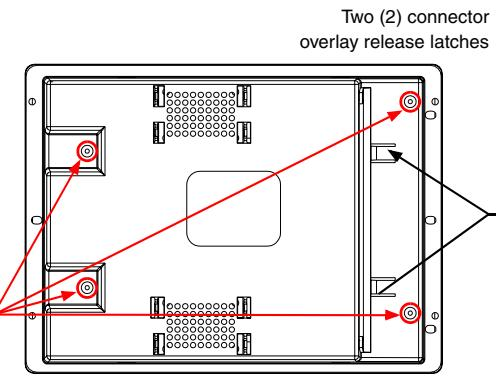

FIG. 9 Location of the securing screws and overlay on an NXD panel
- Place the LCD facedown onto a soft cloth to expose the under-side of the unit (FIG. 9). This step helps prevent scratching of the LCD.
- Unscrew the outer housing (back box) by using a grounded Phillips-head screwdriver to remove the two sets of pan-head Housing Screws, located on both sides of the housing (FIG. 9).